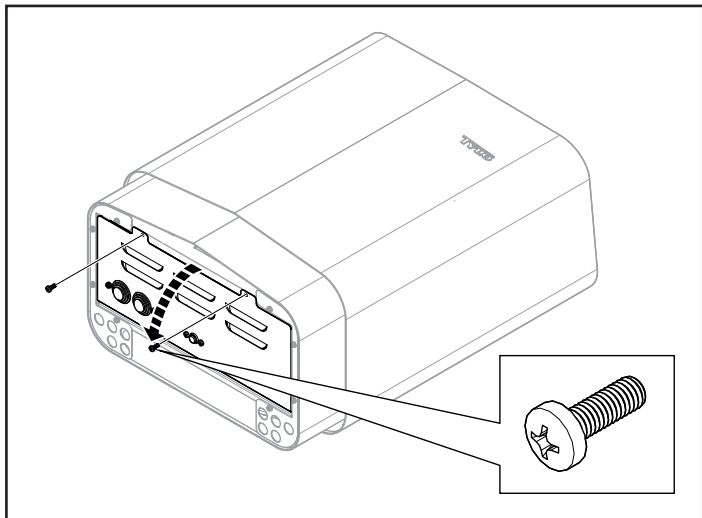

Figure 10: Opening/closing the cover
2. Undo the screws and open the cover (see Figure 10).
5. Close the cover and tighten the screws (see Figure 10).